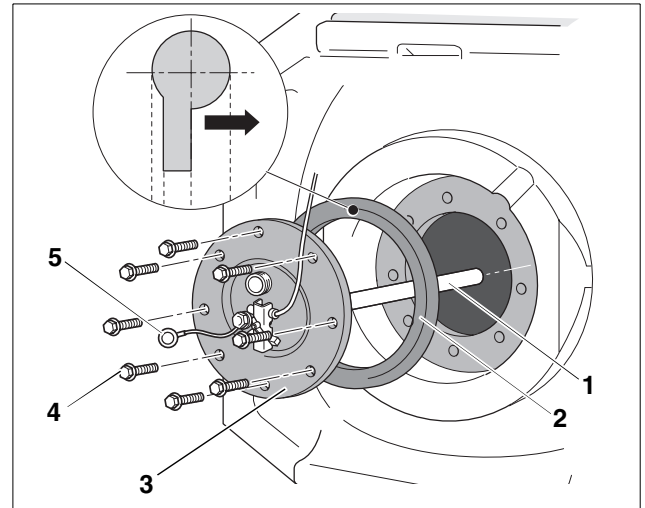

Fig. 19 Installing a new anode rod
- Install the clean-out cover together with magnesium anode (Fig. 19, **Item. 1**) back in the tank. Observe the orientation of the tank gasket. The word "Deckelseite" must be facing the clean-out cover.
- We recommend using a new gasket (Fig. 19, **Item. 2**) when changing out the Magnesium anode to avoid a leakage at the tank.
- Tighten hex head bolts (Fig. 19, **Item. 4**) by hand.
- Make sure to securely tighten the ground cable (Fig. 19, **Item 5**) with a wrench to the clean-out cover to ensure a good electrical connection.
- Tighten the hex head bolts for the clean-out cover with a $\frac{3}{4}$ turn using a wrench (Fig. 19, **Item. 4**).